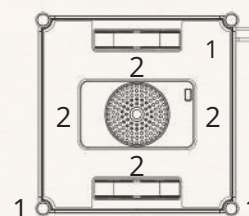

Fig. 3
- Plug the adapter into a power outlet (Fig. 3).